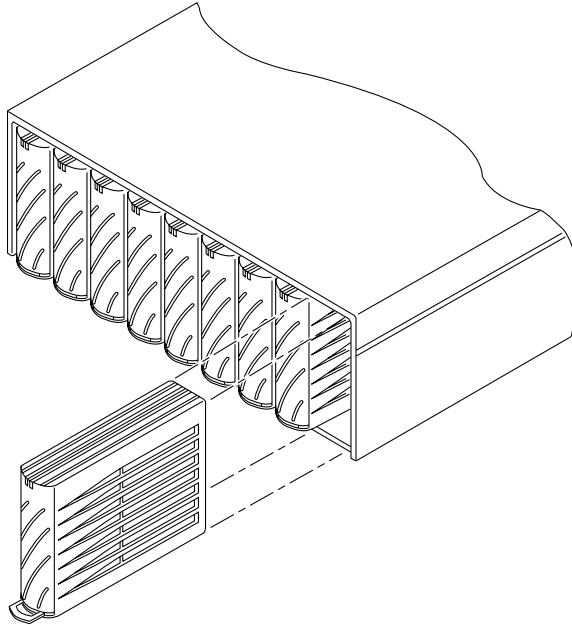

FIGURE 14-4 Removing a Disk Drive
6. Remove the disk drive from the array (FIGURE 14-4).